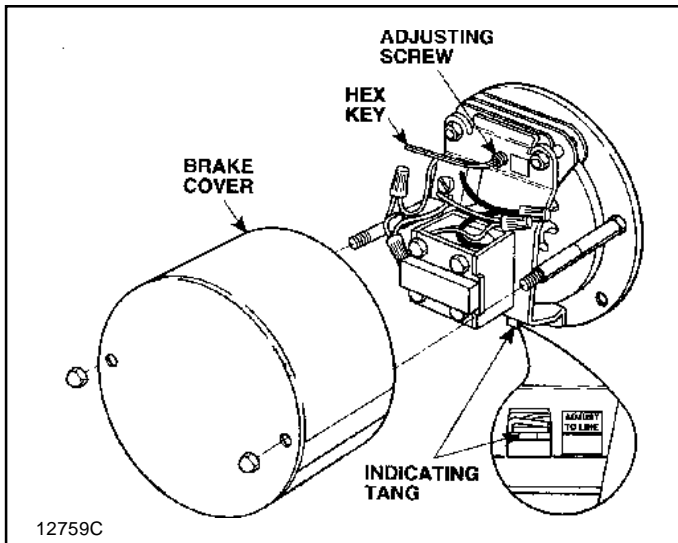

Figure 7-1A. Motor Brake - Later Version.
b. On the later version of the brake (Figure 7-1A), if the tang is below the line by more than 1/8", the brake should be adjusted to bring the top of the tang back up alongside the line on the adjust label.